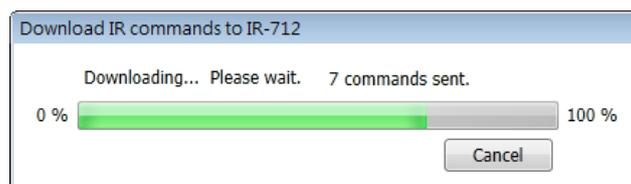

Fig. 12: Downloading IR commands to IR-712
- (1) Select the IR command item from “Device Name” and “Command Name” ComboBoxes.
- (2) Click “Learn On” button to enable IR learning mode where TR/LN LED is ON.
- (3) Aim the emitter head of the remote control (RC) to the “IR Input” position of IR-712 and push the RC’s button which is to be learned in a short time. The distance between IR-712 and RC should be less than 10 cm. After IR learning is finished, the TR/LN LED is OFF. The learning result is sent back to the utility.
- (4) Select the item of IR output channel combobox, e.g. IR Output 1 is selected.
- (5) Aim the IR emitter, which is plugged in IR Output 1 jack, at the IR receiver of the controlled device. Click “Run Command” button to check the effectiveness of the IR learning command. Repeat step 2 and 3 if there is no action on the device.
- (6) Click “Save this Cmd” button to save the learning data to the item of “Command Name” combobox, e.g. the item in Fig. 12 is “Play”.